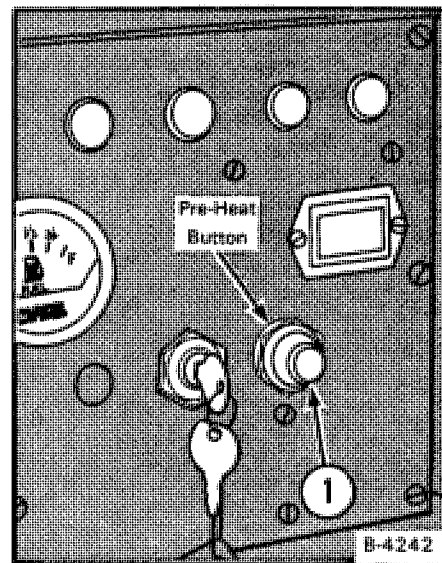

Fig. 25 Pre-Heat Button
2. Push the pre-heat button (Fig. 25, Item 1) for 15 to 20 seconds.